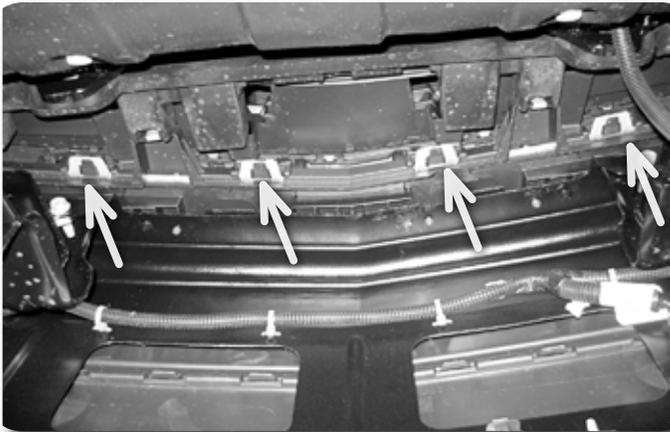

Figure 3 - 4 of 6 clips shown
4. Remove the six clips holding the grill valence to the grill from the inside. Figure 3